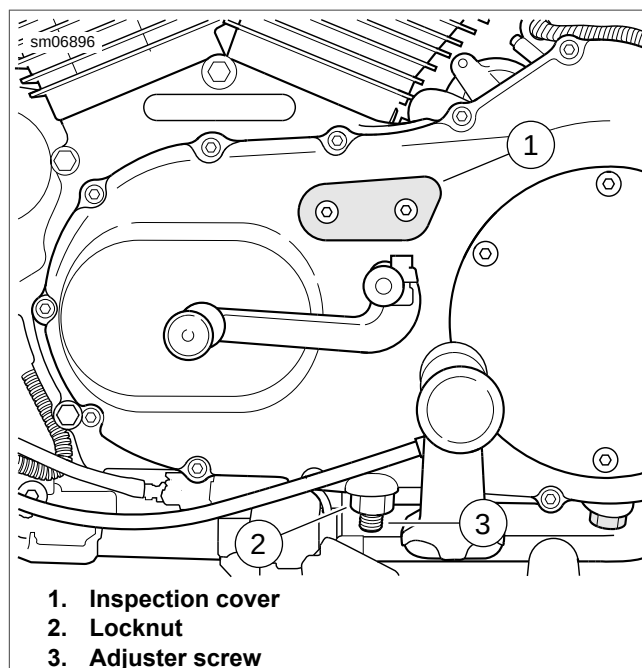

Figure 1-19. Primary Chain Inspection Cover and Adjuster
2. See Figure 1-19. Remove the primary chain inspection cover (1).
- a. See Figure 1-19. Loosen the locknut (2).
- b. With a hex key, turn the adjuster screw (3) clockwise to reduce free play or counterclockwise to increase free play.